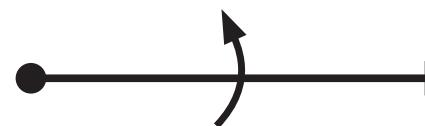

Figure 10
**FIGURE 10** is a competition slow roll. It will be hard to put this figure in the middle of the box with higher-performing aircraft, so just fly the goldfish and the roll well and let the roll come near the upwind side of the box. Try to give a 1-2 count before starting the roll to draw the straight line between figures. And make another count after the roll before your wing-wag to signal the end. Don't confuse the judges with a roll and too quick wing-wag.